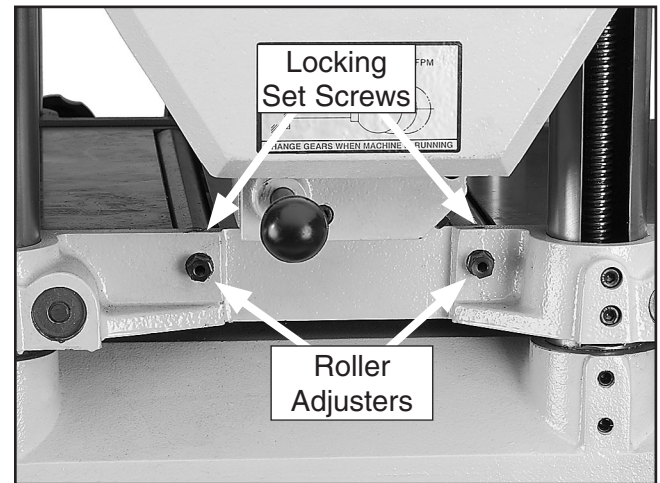

Figure 12. Bed roller controls (only one side shown).
2. Loosen the locking set screws (**Figure 12**) above the roller adjusters (4 total).